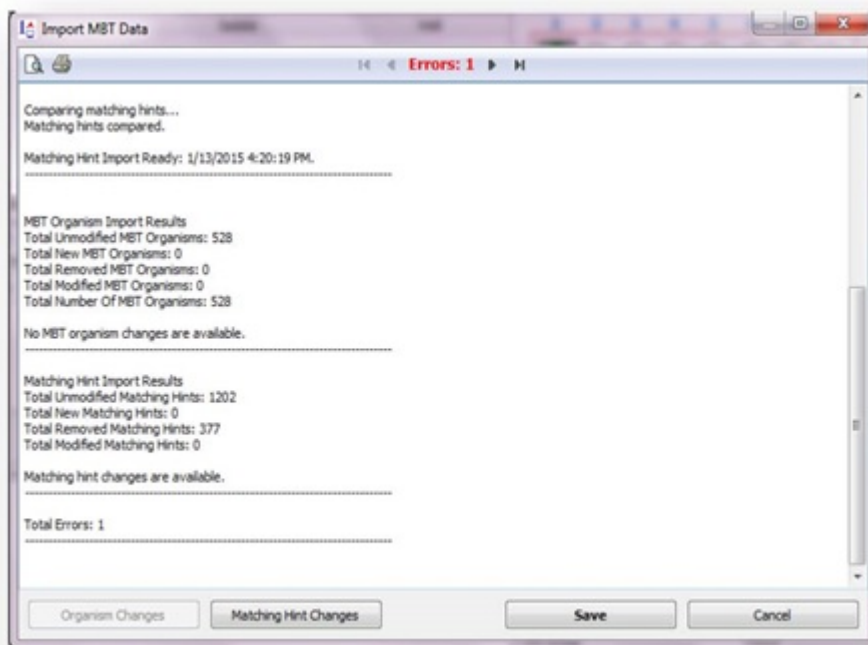

Figure 16: Matching Hints
5. If the **Matching Hint Changes** button is active, click the button to view MBT matching hint changes introduced by the import process (See Figure 16).